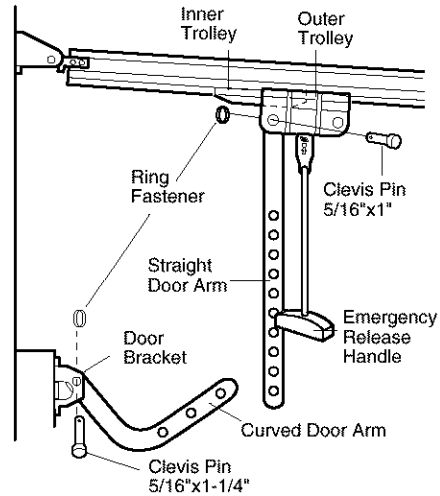

Figure 1
- Mark and drill 5/16" left and right fastening holes. Secure the bracket as shown in Figure 1 if there is vertical reinforcement.
- Make sure garage door is fully closed. Pull the emergency release handle to disconnect the outer trolley from the inner trolley. Slide the outer trolley back (away from the door) about 2" (5 cm) as shown in Figures 1, 2 and 3.
• **Figure 1:**